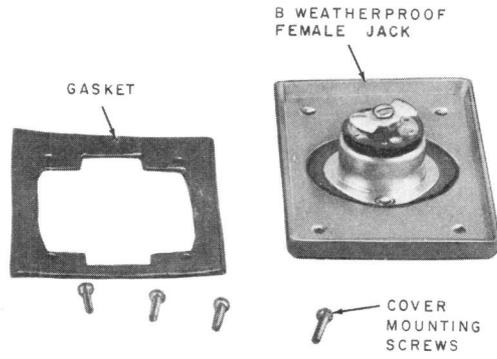

Fig. 1—B Weatherproof Female Jack
- Change Fig. 1.
- At all other installations—use a B Outlet Box, AT-8732, and a B Weatherproof Female Jack, ♦Adapter♦ AT-8732 (Fig. 1 and 2).